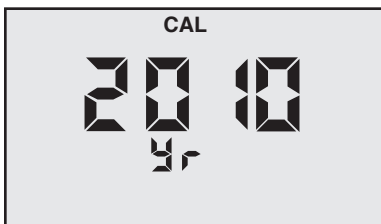

Figure 13
3. Press  to initiate. **CAL** will be displayed along with the YEAR, (see Figure 13).